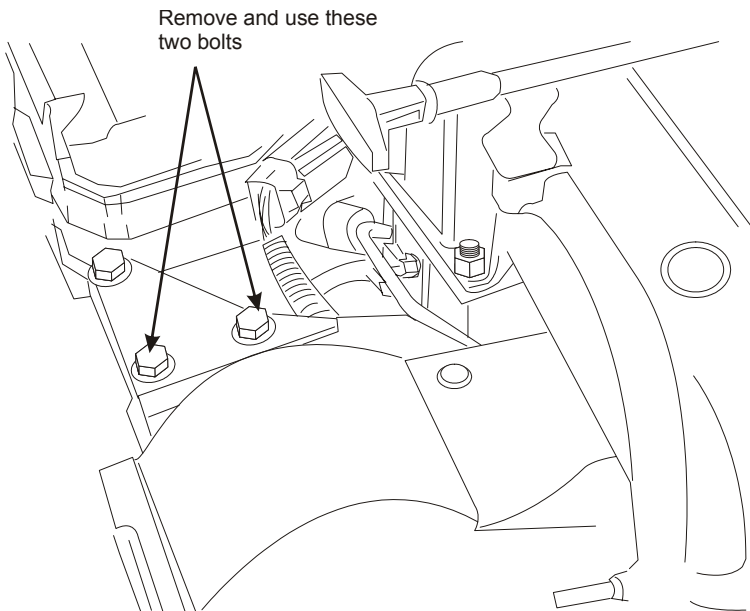

Figure 4.1
- ☐ Remove the two OEM bolts (Figure 4.1) and mount the throttle bracket with the vertical section of the bracket facing the passenger side of the vehicle using the OEM bolts.